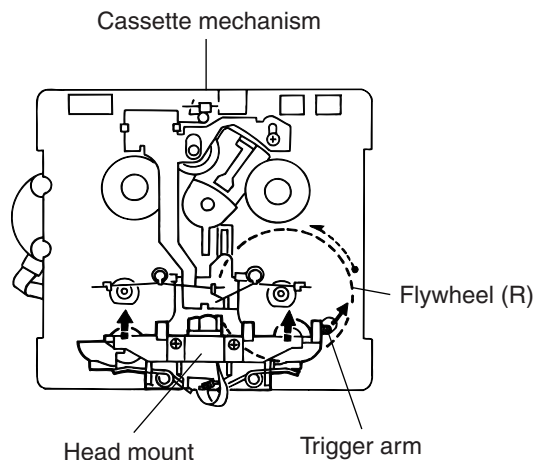

Fig. 1
■ Removing the Recording, Playback / Erasing Head (Refer to Figs. 1 to 3.)
1. Shifting the trigger arm seen in the right side of the head mount in the arrow-marked direction, turn the flywheel (R) counterclockwise until the head mount clicks while moving forwards. (See Fig. 1.)